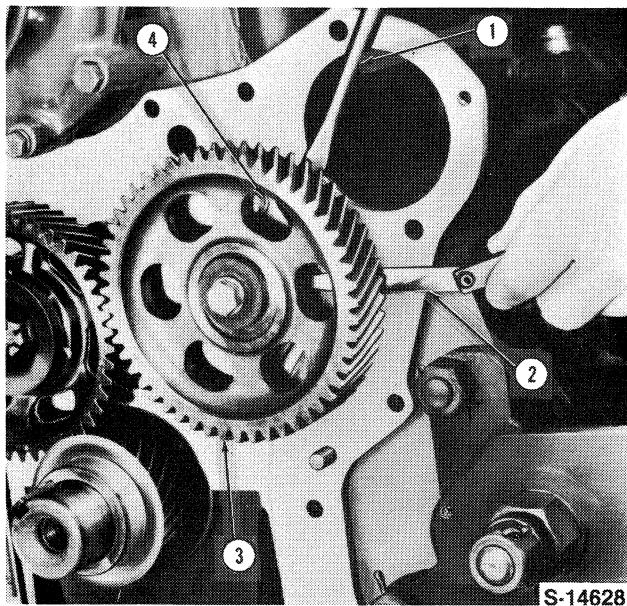

Figure 26
7. Pry the camshaft gear away from the thrust plate and using a dial indicator or feeler gauges, measure the clearance, Figure 26. Install a new camshaft thrust plate if the camshaft end play exceeds the specified limits, see "Specifications" — Chapter 4.